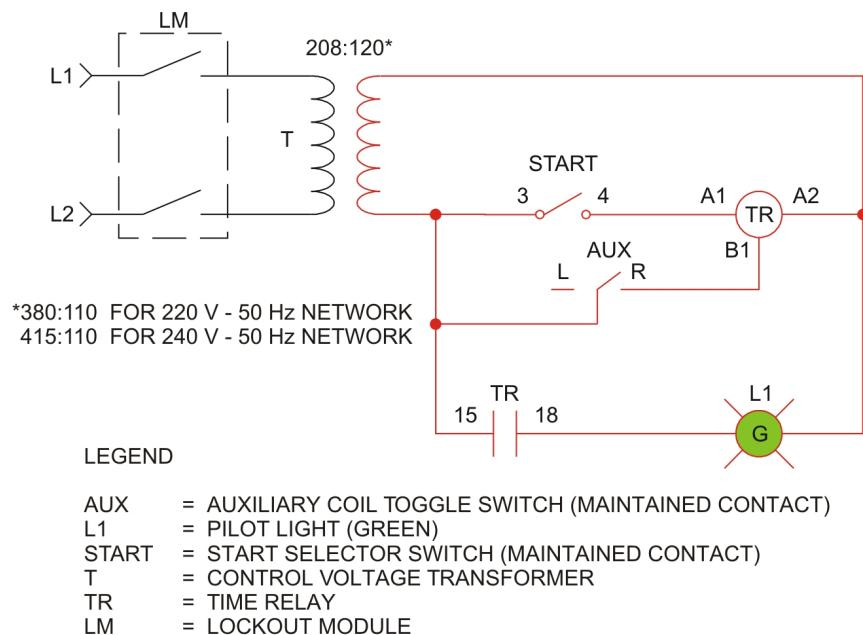

Figure 6-5. Basic time-delay circuit.
Figure 6-5 shows a time-delay circuit. When the selector switch closes, the time relay coil is energized. If an on-delay is set, the NO contact closes after the preset time t , turning on the green light. Opening the selector switch de-energizes the circuit, turning off the green light.
2. Connect the circuit shown in Figure 6-5. Use the SS-1 contact of the Selector Switches module.